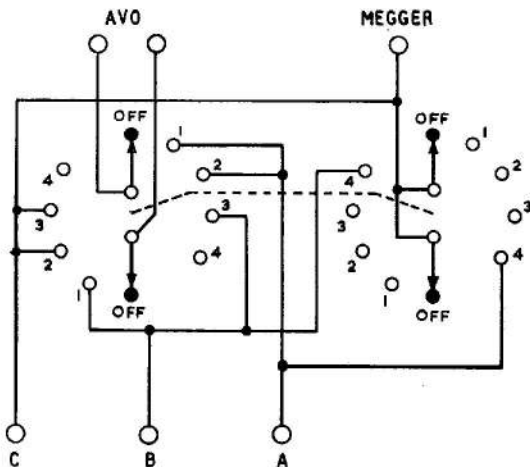

Fig. 2. Circuit diagram
4. The moving contacts on one wafer of the switch (fig. 2) are connected to the AVO terminals whilst those on the other wafer are associated with the MEGGER terminal. When in the OFF position the moving contacts are not connected to any external circuit. In switch positions AB, AC and BC however the AVO terminals are connected to terminals A and B; A and C; and B and C respectively. In the MEGGER position the switch connects the MEGGER terminal to all three of terminals A, B and C.